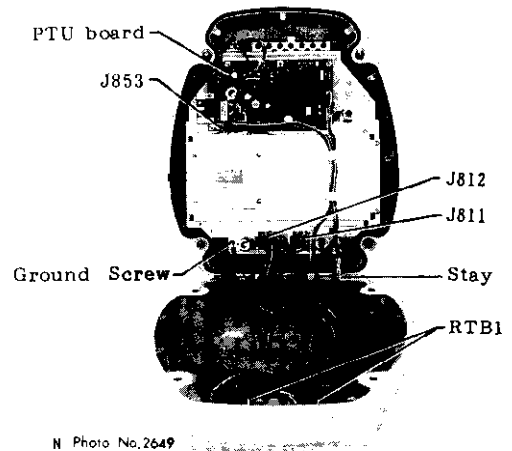

Fig.9 Internal Wirings
4. Open the scanner housing cover and fix the stay as shown in Fig.9. Make the scanner unit internal wiring as the following steps.
6. The black ground wire is provided with the cable mentioned above. Connect the wire to the chassis of the transceiver module with the screw shown in Fig.9.